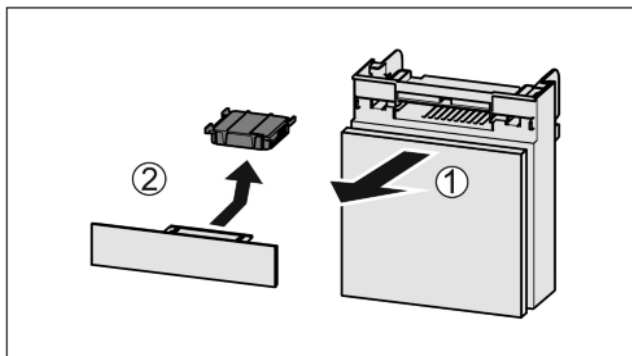

Fig. 44
- ▶ Pull out the compartment Fig. 44 (1).
- ▶ Remove the carbon filter Fig. 44 (2).